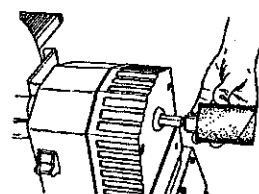

Fig.H-13
3. Install the Drum Sander on the outer shaft, as shown in Fig.H-13. Use Speed Settings 5- 5-1/2.
1. Turn off and unplug the Power Station, then remove the safety key(35).
2. Install the Drum Sander on the outer shaft, as described above. See Fig.H-13.